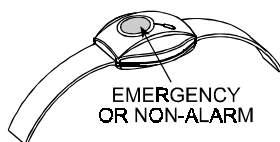

Figure 27. MCT-211
F. MCT-211 (Fig. 27) This unit is a waterproof, wrist-worn PowerCode transmitter, that can be enrolled to perform emergency or non-alarm function.